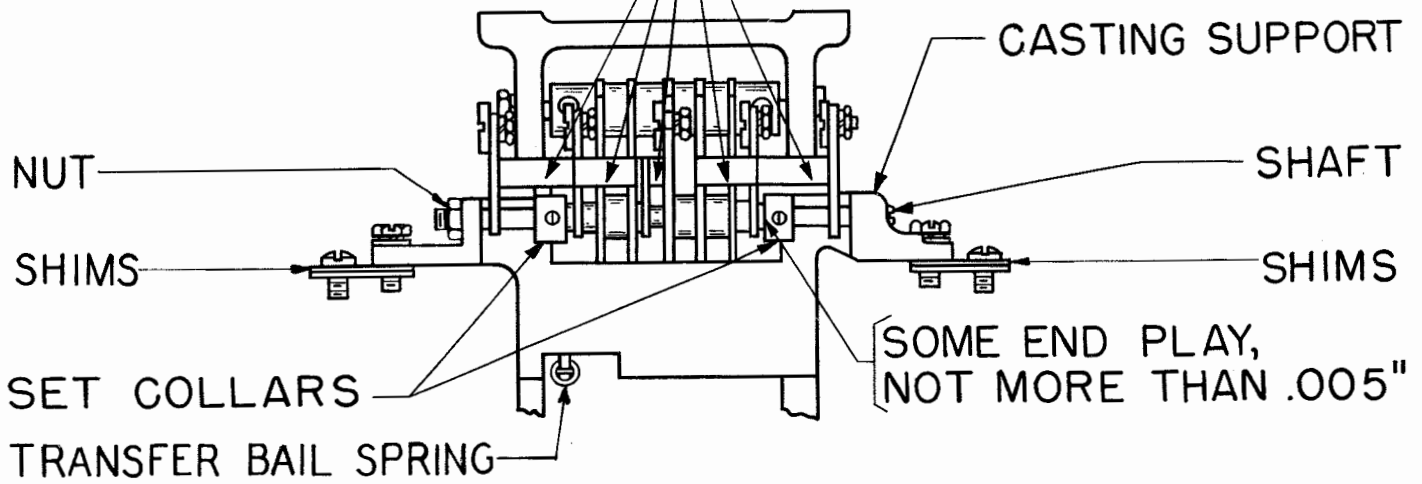

Figure 59
2.124 Sensing-contact Operating-bails (New-style Bracket): (See also 2.119.) The sensing-contact operating-bails shall be centrally located between the casting supports and the bails shall rotate freely on their shaft with some endplay, not more than that indicated in Figure 59.